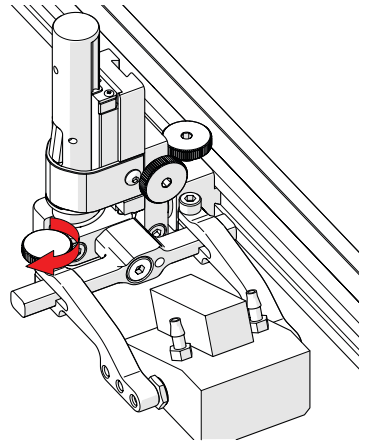

Fig. 109 - Tighten arm knob
6. Tighten the probe holder arm adjustment knob (Fig. 109).